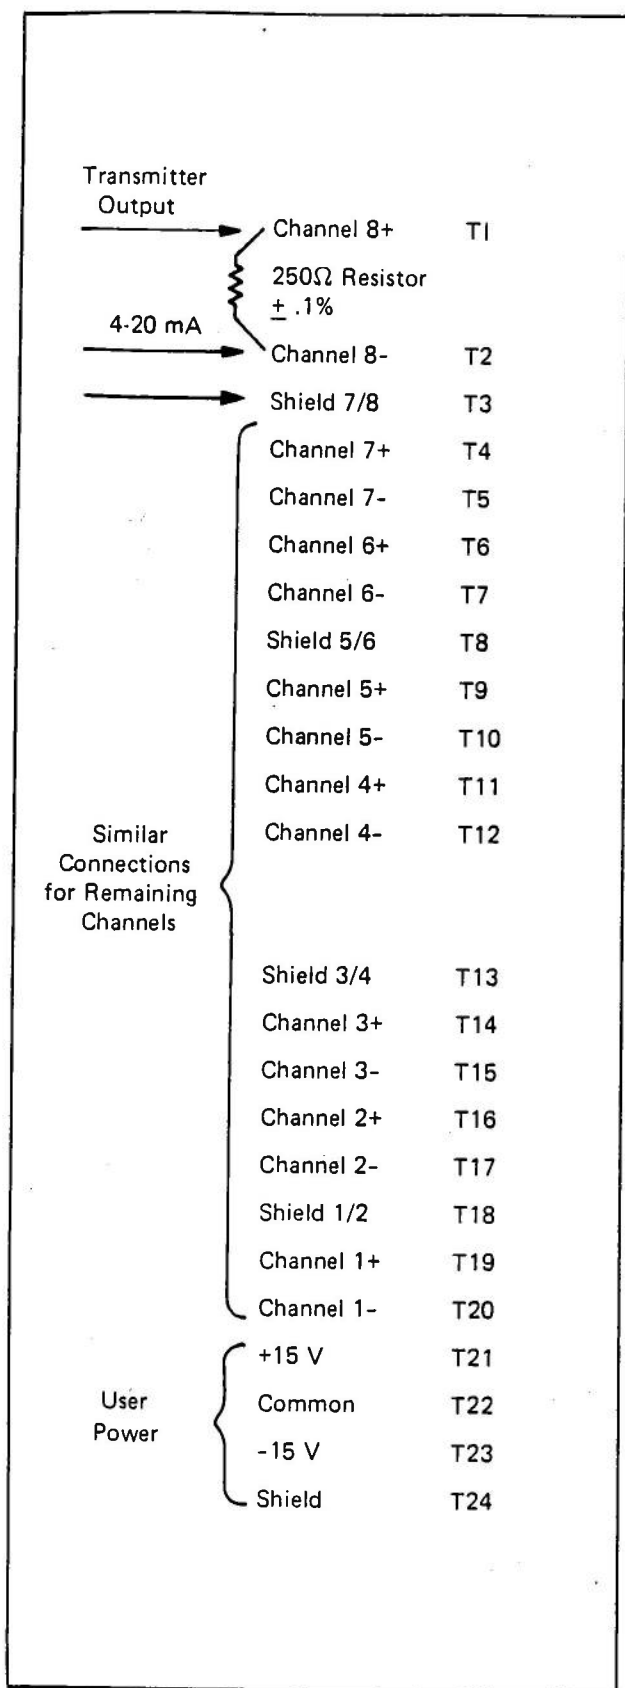

Figure 10 — Current Input Resistor Connections
5. Any channel on the Module can accept an analog current input if user-supplied resistors are added to convert the current input to a voltage. Select the correct resistance value from Table B. Install the resistor across the + Analog In and - Analog In terminals of the channel(s) to be converted (Figure 10). All resistors should be 0.1%, 1/2 watt precision types with low-temperature coefficient (less than ± 20 ppm).